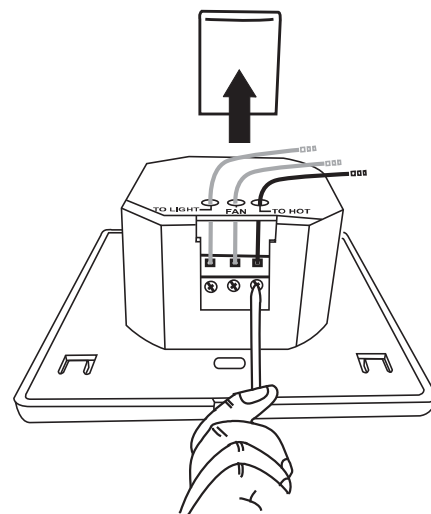

Figure 8
3. Make speed control wire connections (Fig. 8). Ensure that bare wires are fully inserted into their terminals with no loose strands and that terminal screws are fully tightened.
5. Attach the wall control to the outlet (wall) box and secure with 2 outlet box screws. (Fig. 8)